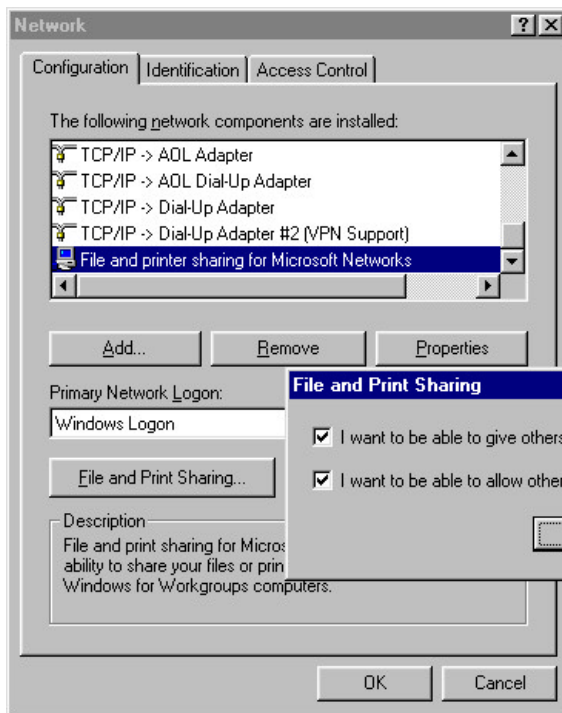
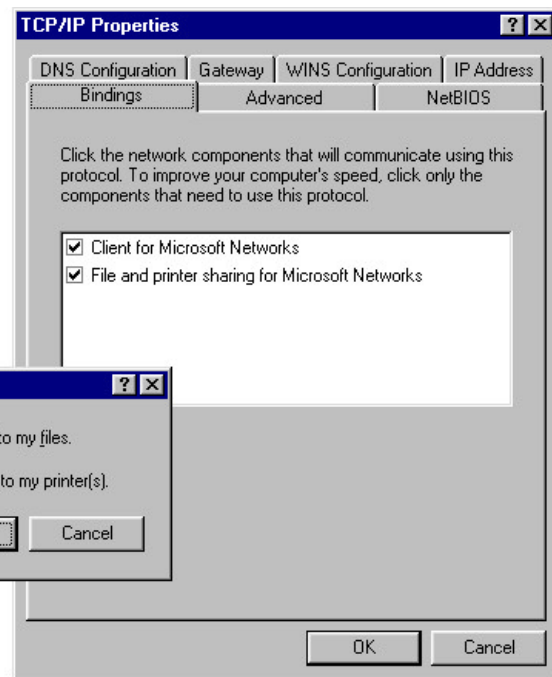

Fig. 10: Network configuration in Windows 95/98
Fig. 11: TCP/IP bindings in Windows 95/98
The availability of the TCP/IP address and its proper linking in Windows 95/98 can be checked in the Network properties too by choosing the tab "Configuration". It should include the TCP/IP protocol linked to the network card (not shown here) as well as the "File and Printer sharing for Microsoft Networks" (Fig. 10).
Fig. 11 shows the list of bindings with the required components already activated. This display becomes available through the properties' button when the TCP/IP component is highlighted in the list of Fig. 10.
- File sharing on the remote system (according Fig. 10, 11 and 14)
- Client for Microsoft Networks not active (acc. Fig. 11)